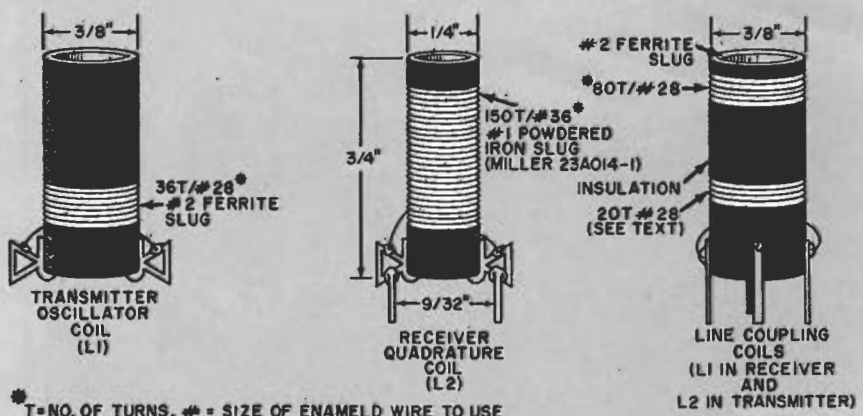

Fig. 6. Follow the instructions in the text and the diagrams above for winding the various coils.
- L1,L2—See Fig. 6
As shown in Fig. 6, the transmitter oscillator coil, *L1*, uses a 3/8" diameter plastic form having a #2 ferrite tuning slug. It is closely wound with 36 turns of #28 enameled wire with each end connected to suitable solder pins on the form. The receiver quadrature coil, *L2*, consists of 150 turns of #36 enameled wire tightly wound and layered on a 1/4" diameter form about 3/4" long. The form should have a #1 powdered-iron tuning slug core (Miller 23AO14-1 or similar). Both line coupling coils (*L2* in the transmitter and *L1* in the receiver) are fabricated in the same way. Wind 80 turns of #28 enameled wire tightly on a 3/8" diameter form having a #2 ferrite tuning slug. Cover the winding with two layers of high-voltage Mylar tape for insulation. Wind 20 turns of #28 enameled wire over the tape to use as the secondary winding. The windings can be held in place with glue or coil dope.